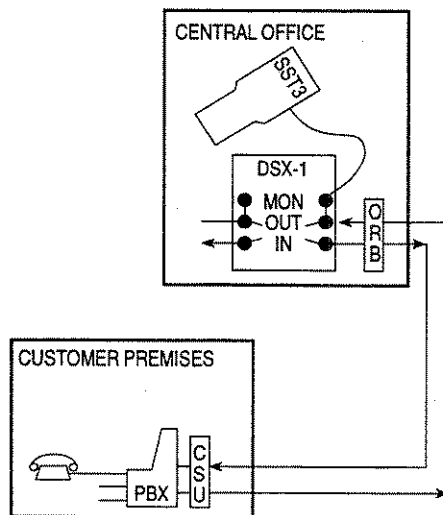

Figure 1.11.A Monitor a Voice Channel
Here is a procedure for monitoring a voice frequency channel within a T1 circuit. The setup is illustrated in Figure 1.11.A.
- a) Configure the RECVR for DSXMON or BRIDGE, depending on how you wish to connect to the circuit. Figure 1.11.A illustrates the DSXMON setup.